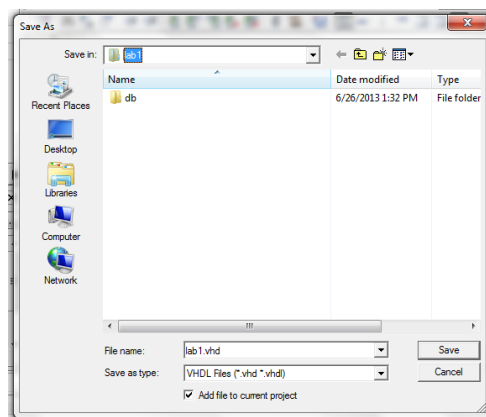

Figure 4: Save As dialog box
2. Save this new file by going to **File** → **Save As** → **lab1.vhd** → **SAVE** as shown in figure 4